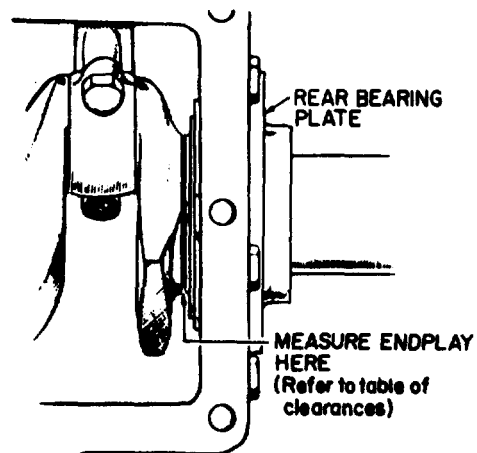

Figure 5-58. Measuring Crankshaft Endplay
- (1) After the rear bearing end plate has been tightened using the torque recommended in Table 5-4, check the crankshaft endplay shown in figure 5-58.
- (2) Refer to Table 5-3 for minimum and maximum endplay. If there is too much endplay, remove the rear bearing end plate and replace the gasket with a thinner gasket from the gasket kit. For too little end play, remove the rear bearing end plate and replace the gasket with a thicker one. Reinstall the end plate making sure the thrust washer notches line up with the lock pins. Torque and recheck endplay of the crankshaft.